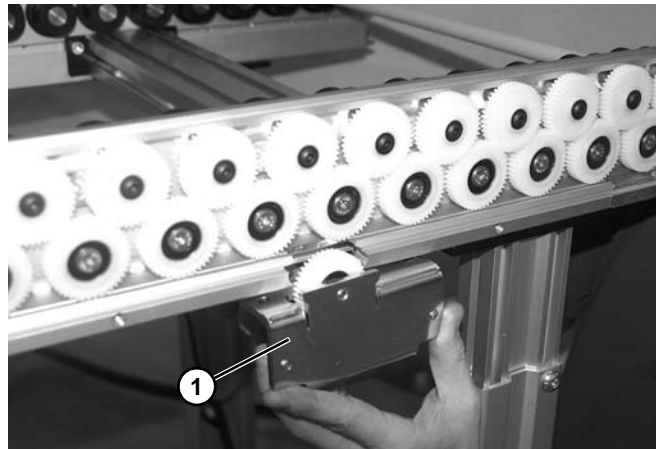

Figure 10
4. Lower and remove motor (**Figure 10, item 1**) from conveyor frame.